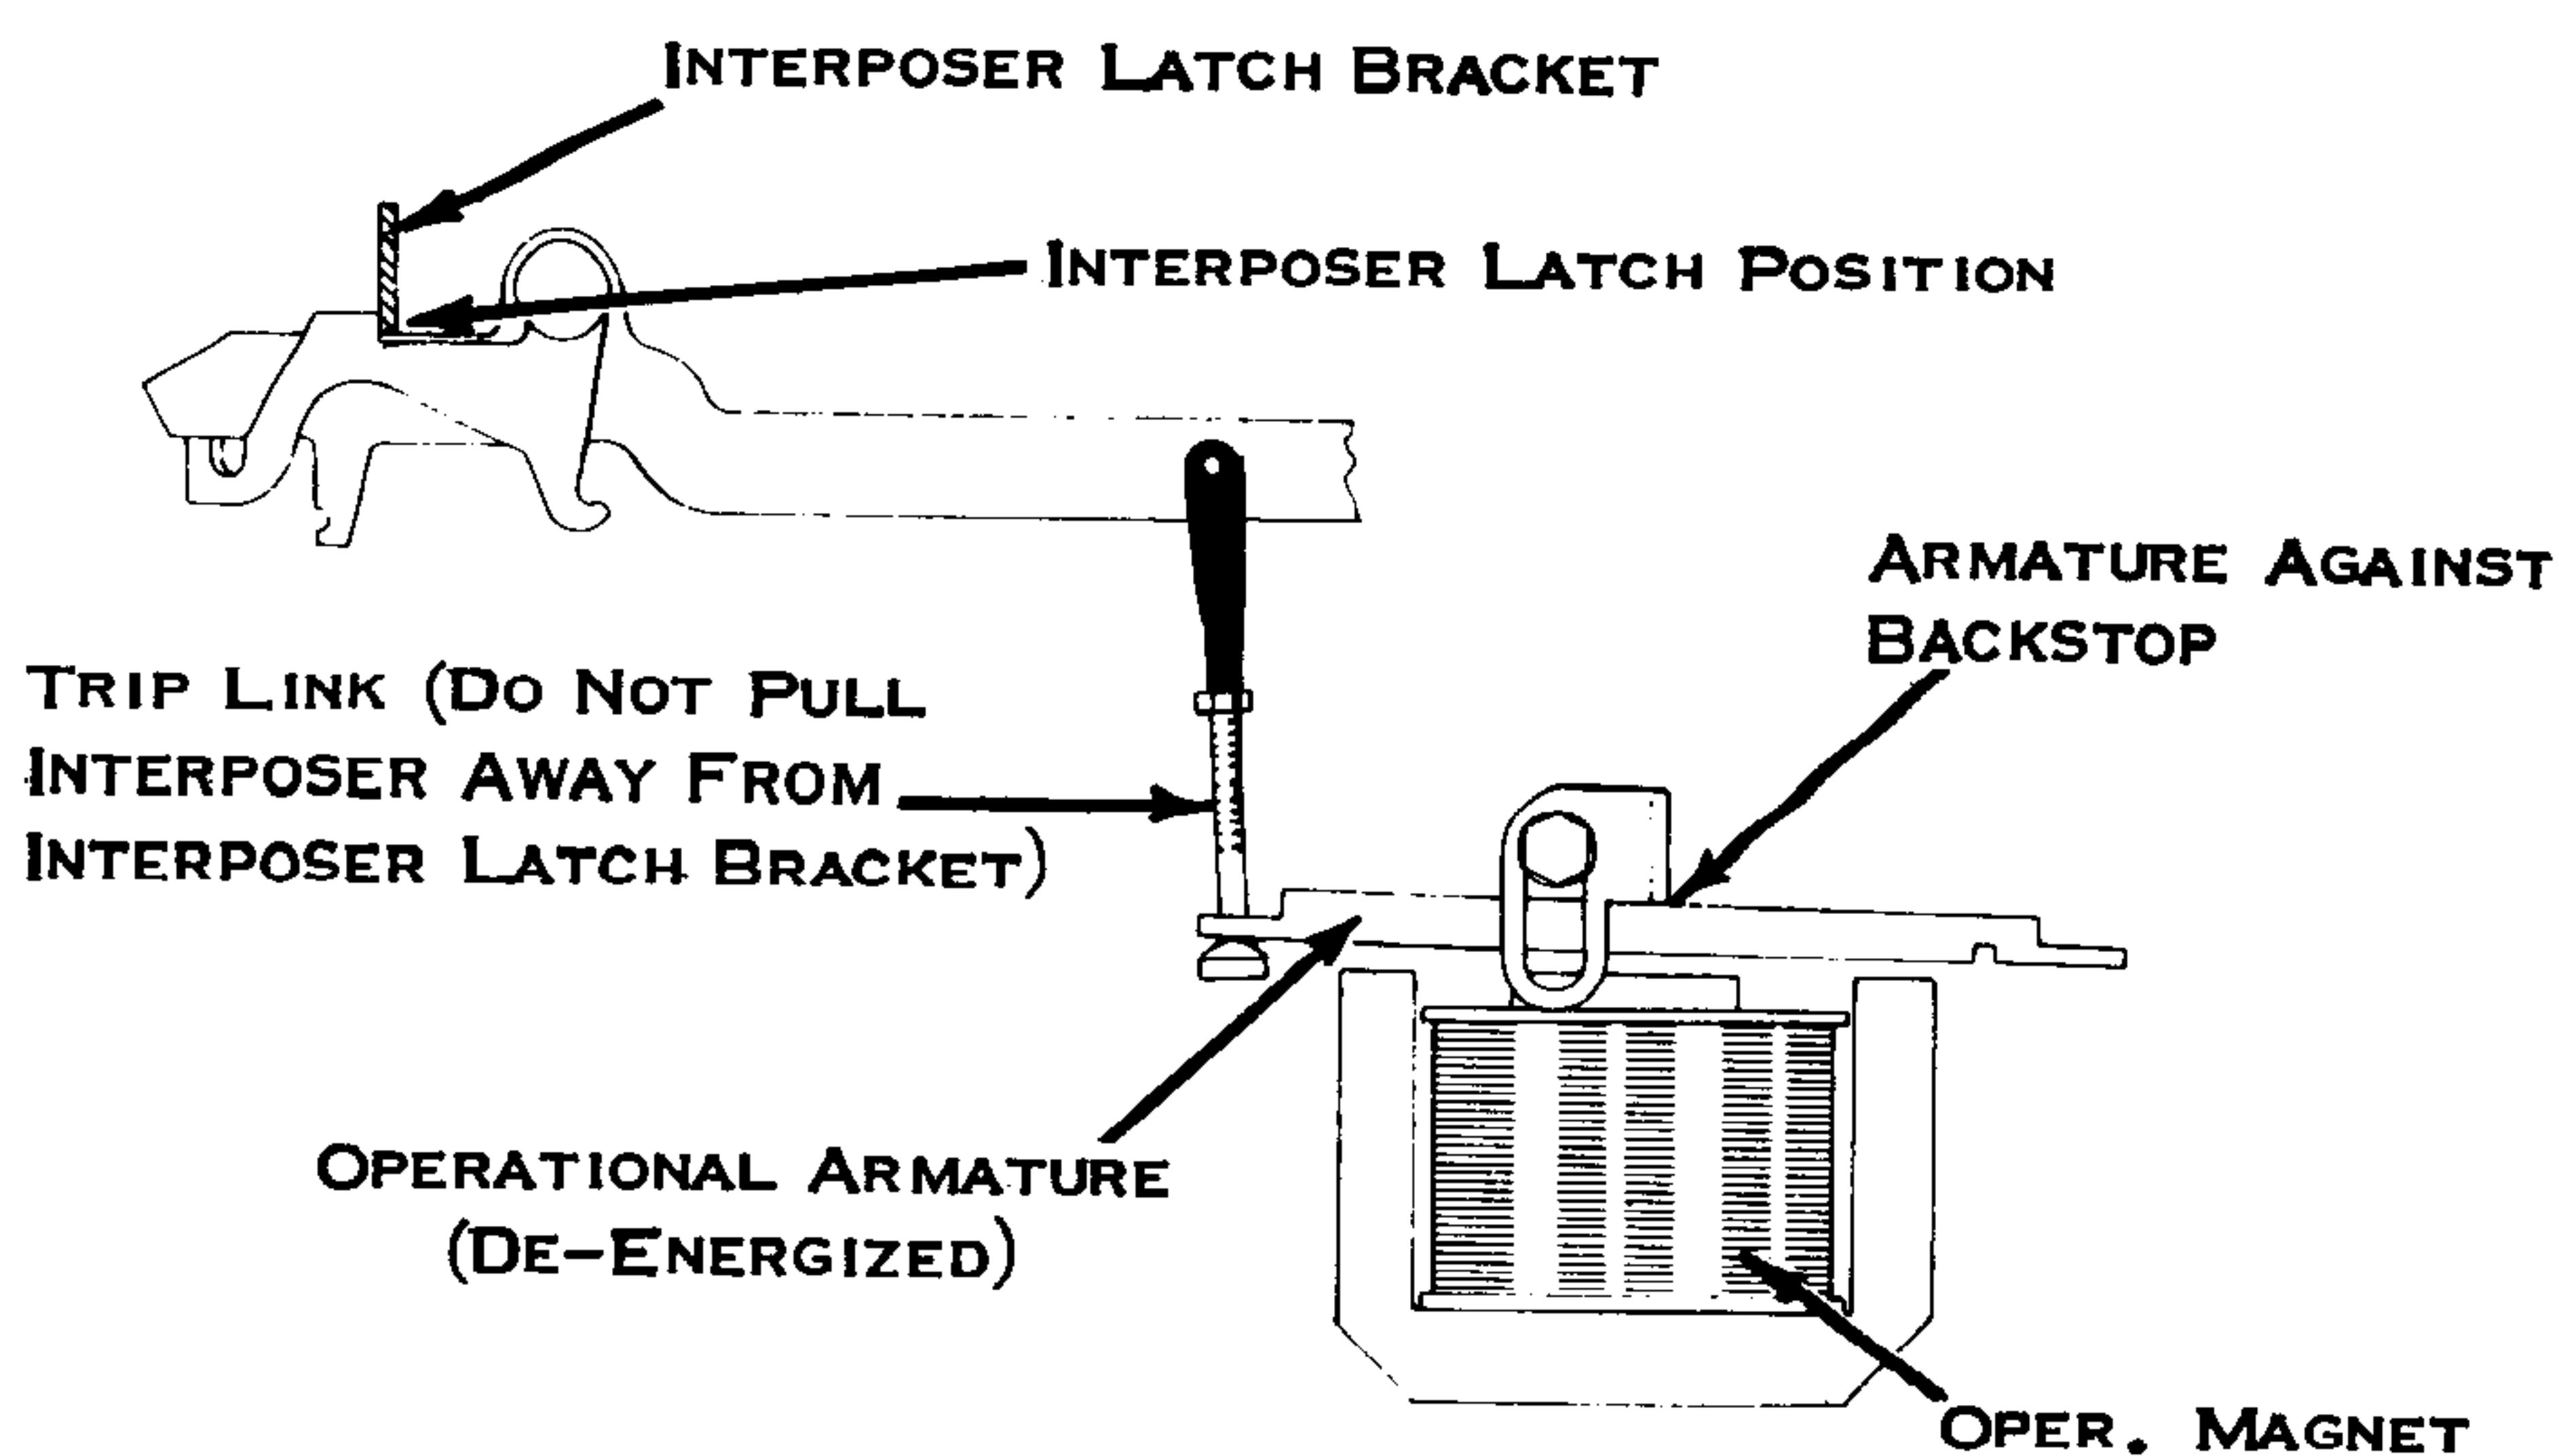

Figure 133. Trip Link
5. Trip Link (Fig. 133) - Shorten (interposer latched and armature against backstop) until the interposer latch barely begins to lift off the latch bracket, then lengthen by 1/2 turn.